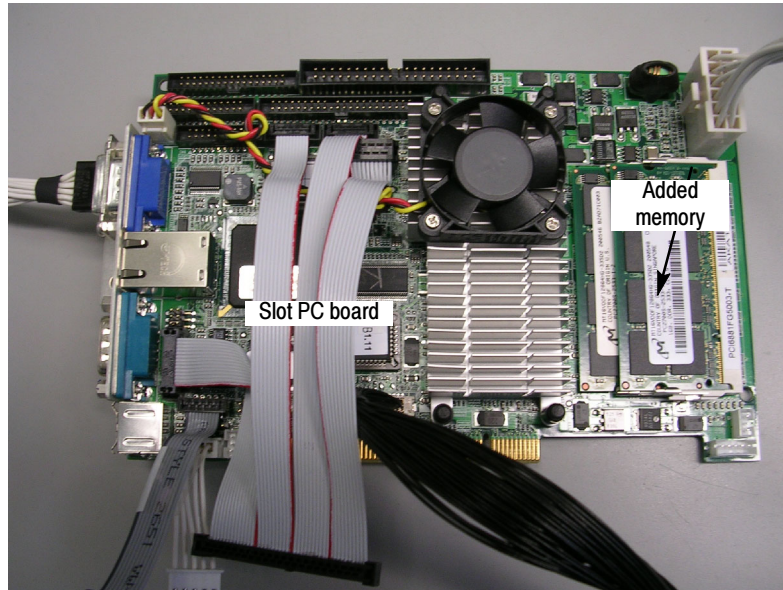

Figure 8: Slot PC board with added memory module
10. Slide the 167-0517-xx memory module, provided in the kit, into the empty memory slot at an angle and push it down. See Figure 8.